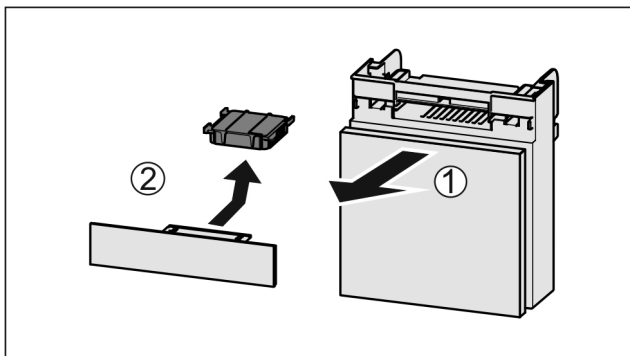

Fig. 108
- ▶ Pull out the compartment Fig. 108 (1).
- ▶ Remove the carbon filter Fig. 108 (2).